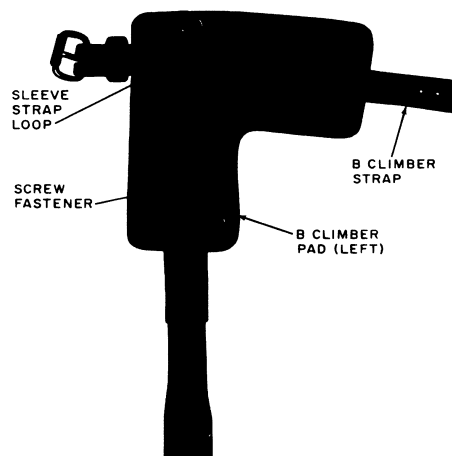

Fig. 6—B Climber Strap and Pad Installed on Climber
2.11 The B climber strap (Fig. 6) consists of a 22- or 26-inch strap with a buckle permanently attached. The B climber strap is used to hold the pad on the leg iron and to fasten both to the employee's leg when the climber is worn.
- (2) Place the B climber strap and pad on the sleeve as shown in Fig. 6. The strap should be placed so the tongue will point toward the back of the leg when buckled.
- (3) Place the sleeve on the shank of the climber step on the stirrup and buckle the foot strap so the stirrup is held firmly against the arch of the shoe. Adjust the sleeve to a position that is most comfortable.
- (4) Place one of the slotted hexagon head setscrews through the hole in the sleeve that is aligned with the threaded holes in the climber and tighten the setscrew to hold the sleeve in place.